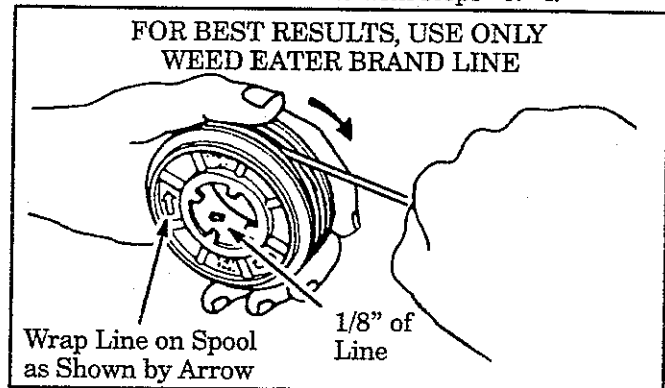

Figure 22
- Insert 1/16" to 1/8" of the end of the line through the hole in the spool. Figure 22 . Allow no more than 1/8" line to extend inside the spool.
- Wrap the line onto the spool firmly and evenly in the direction shown by the arrow on the spool. Figure 22 .